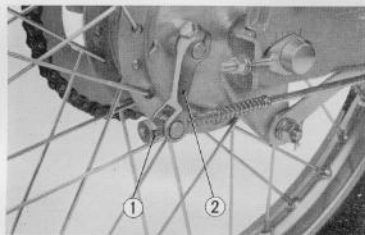

Fig. 4.62 Removing rear brake rod from rear brake arm
- (1) Remove the brake pedal spring and the stop light spring from the brake pedal.
- (2) Remove the brake adjusting nut (1) and remove the rear brake rod from the rear brake arm (2). (Fig. 4.62)